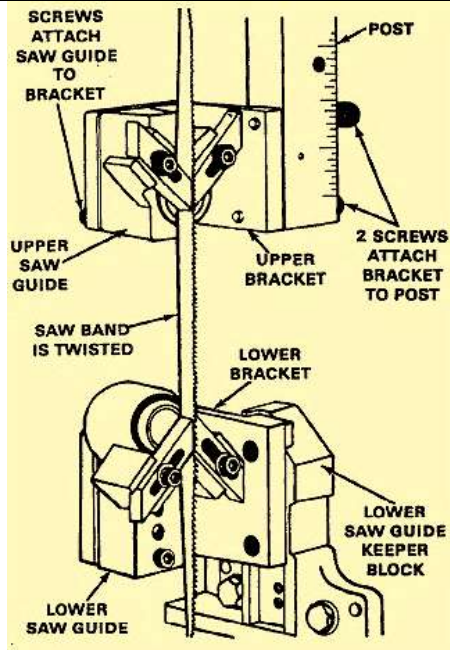

Figure 6-13. Angular saw guides.
**Angular Blade Guide Attachment:** This attachment (Figure 6-13) twists the blade so that long workpieces that would not normally clear the machine column can be cut. The blade is twisted to a 30 degree angle on most machines.